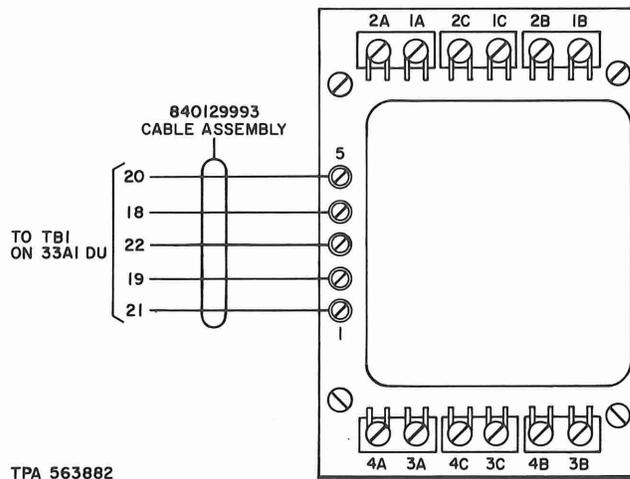

Fig. 10—Connection of 944A Equalizer
3.11 After DS 306A-type is installed and connected, the 944A equalizer on the rear of the 33A1 DU (Fig. 9) must be adjusted to compensate for the cable length between the 33A1 DU and the LTU. Tighten the screw terminals located at the top and bottom of the equalizer according to Table D for the length of cable between the 33A1 DU and the LTU. An 840129993 cable assembly is connected between the equalizer and TB1 on the 33A1 DU as shown in Fig. 10.